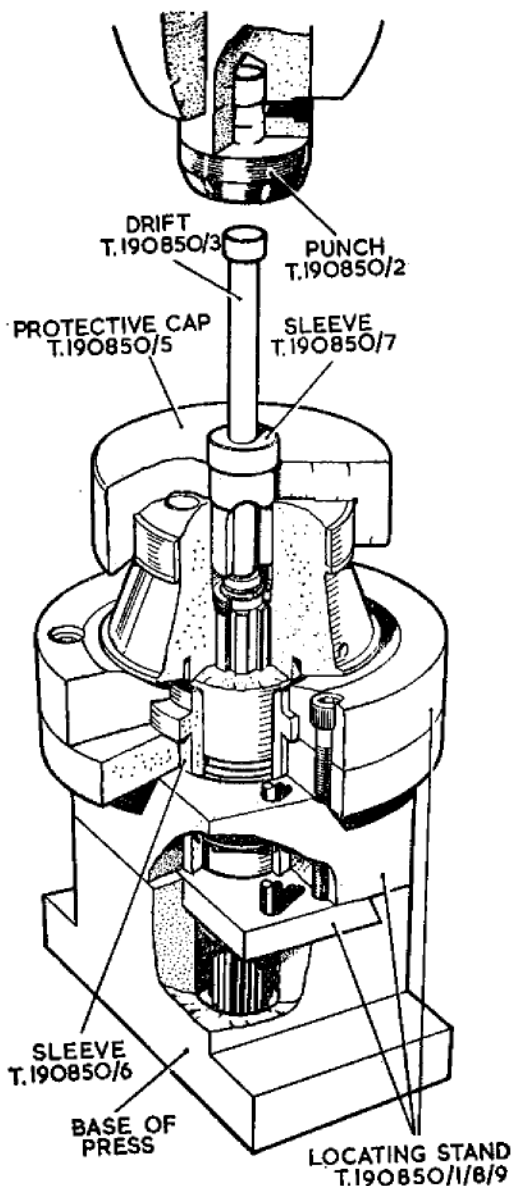

Fig. 9. Removing the rotor quill shaft
(1) Place the rotor locating stand consisting of tool T.190850/1/6/8 and /9 (fig. 9) on the handpress base plate and mount the rotor on to the tufnol supporting ring of the stand so that the quill shaft faces towards the base.
(2) Place the protective cap T.190850/5 over the rotor port insert face so that the sleeve T.190850/7 locates in the axial bore of the rotor.
(3) Insert the drift T.190850/3